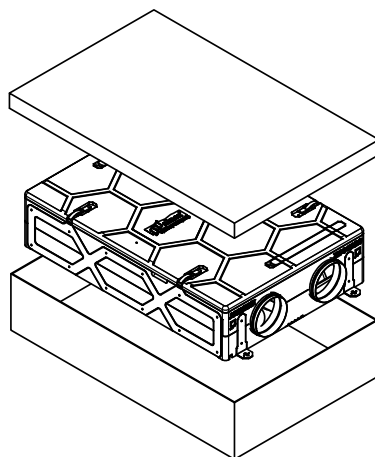

Fig. 24 – Heat recovery unit unboxing
- Heat recovery unit (with all components from fig. 24) - 1 pcs